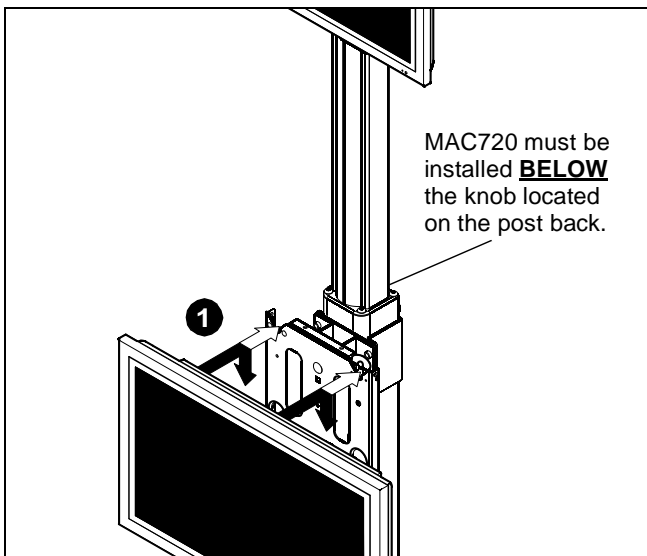

Figure 5
- While supporting both sides of display, align four mounting buttons on display or interface bracket with four mounting holes in faceplate. (See Figures 5 and 6)
- Lower display into place listening for audible "click" to ensure recessed area of mounting buttons are properly seated in lower area of mounting holes. (See Figures 5 and 6)